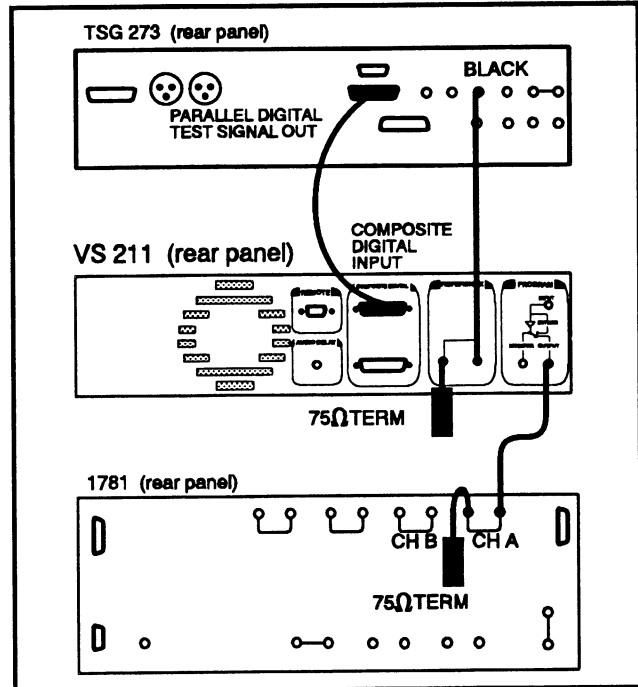

Fig. 4-34. Setup to adjust the DC level and gain.
- Connect the equipment as shown in Fig. 4-34.